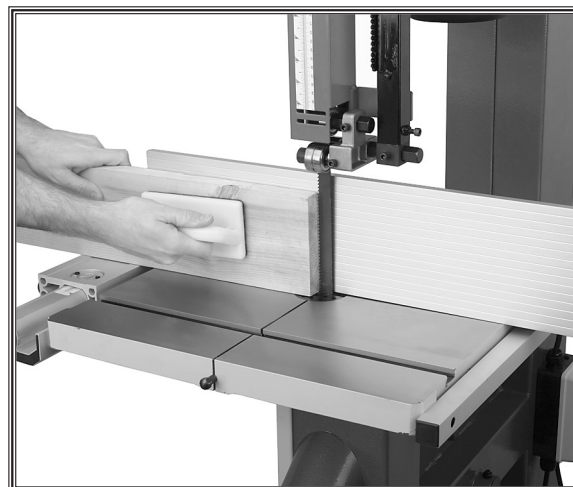

Figure 57. Example of resawing lumber.
"Resawing" (**Figure 57**) is cutting a workpiece into two or more thinner workpieces. Use the widest blade possible when resawing—a wide blade cuts straighter and is less prone to blade lead (see **Page 36**). For most applications, use a blade with a hook- or skip-tooth style. Choose blades with fewer teeth-per-inch (from 3 to 6), because they offer larger gullet capacities for clearing sawdust, reducing heat buildup and reducing strain on the motor.
6. Using push paddles and a push stick, keep pressure against the fence and table, and slowly feed the workpiece into the moving blade (**Figure 57**) until the blade is completely through the workpiece.